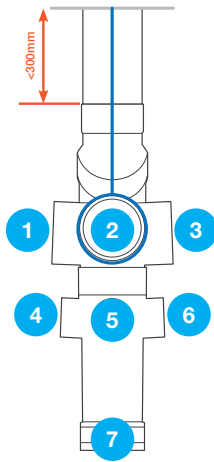

Figure 2
- A 3-way rigid connection secured tightly to the moulded inlet at position (2) on the Converge aerator (see Fig. 2); or